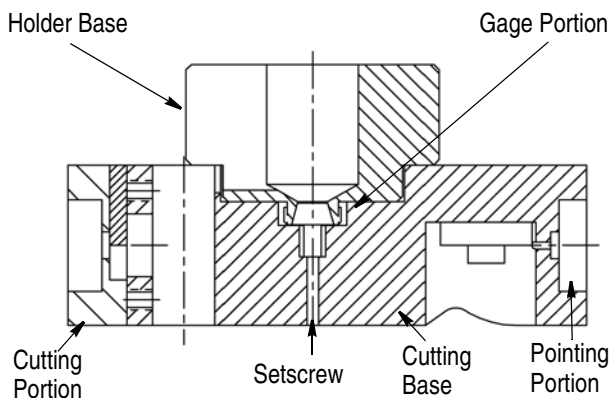

Figure 2
2. Insert the cable into the holder base until the cable makes contact with the setscrew of the gage. See Figure 2.